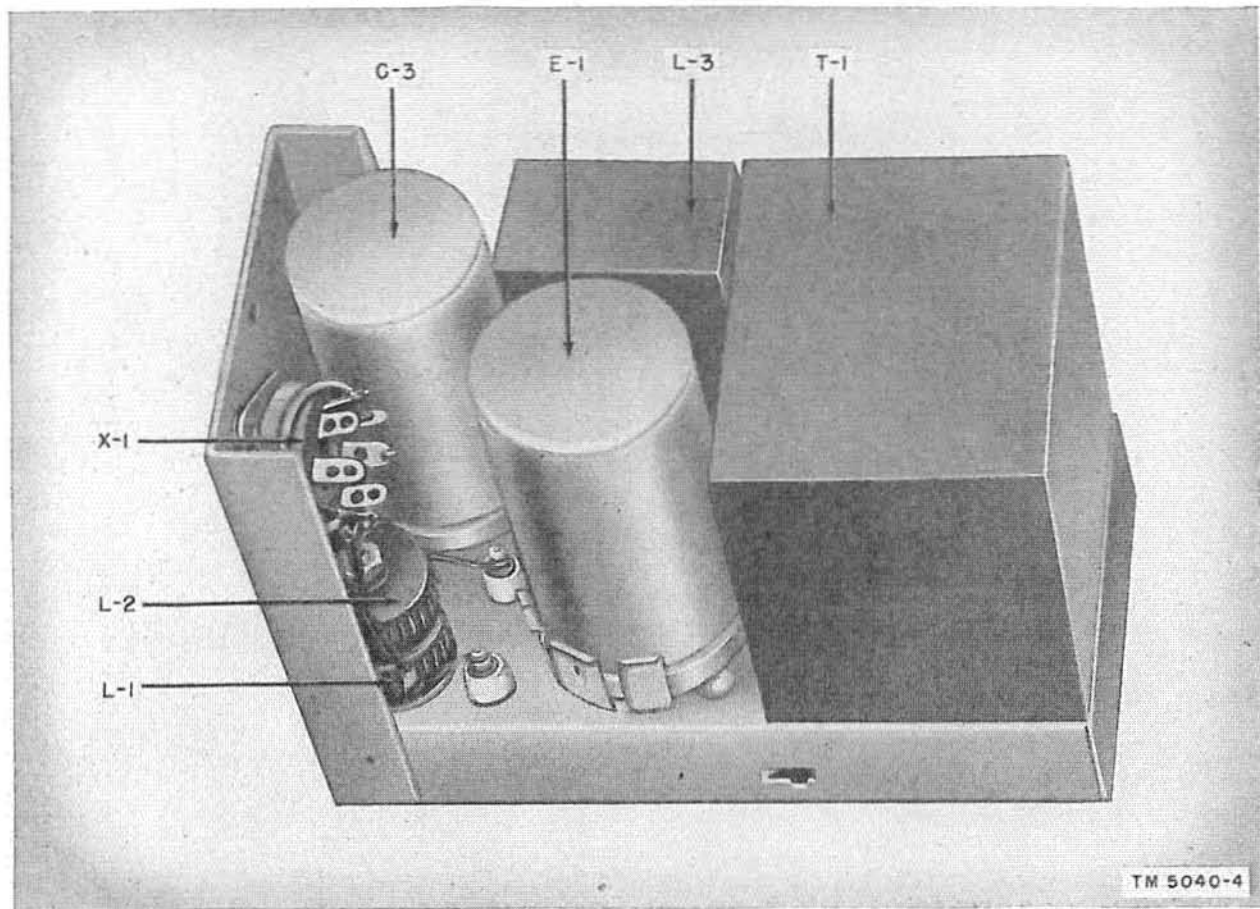

Figure 61. Power supply PP-282/GRC, top view of chassis.
be replaced as a single unit, the plug-in power supply is not furnished as a running spare. However, a spare is provided for the vibrator within the power supply (fig. 61). Remove the amplifier case and replace the vibrator as follows:
- (1) Loosen the clamp at the rear of the power supply compartment and swing it out of the way.
- (2) Grasp the handle at the rear of the power supply unit and pull straight out.
- (3) Remove the three green screws which fasten the top cover on the power supply chassis.
- (4) Using the handle on the cover, lift the cover off with a straight upward movement. If the cover is stuck, use a small
- (5) Pull the vibrator (fig. 61) out of its socket with a straight upward movement. Do not rock or jiggle the vibrator while attempting to remove it from its socket. If necessary, use a small screw driver to gently pry the vibrator out of its socket, but take care not to enlarge the ring clip which holds the vibrator near the base
d. PLUG-IN POWER SUPPLY. Although it can be replaced as a single unit, the plug-in power supply is not furnished as a running spare. A spare is provided, however, for the vibrator within the power supply (fig. 61). Remove the receiver case and replace the vibrator as follows:
- (4) Using the handle on the cover, lift the cover off with a straight upward movement. If the cover is stuck, use a small screw driver and gently pry the cover.
- (5) Pull the vibrator (fig. 61) out of its socket with a straight upward movement. Do not rock or jiggle the vibrator while attempting to remove it from its socket. If necessary, use a small screw driver to gently pry the vibrator out of its socket, but take care not to enlarge the ring clip which holds the vibrator near the base.